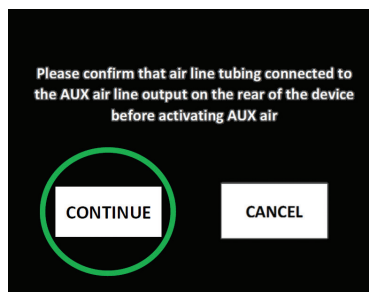

Figure 7F
F. A screen will appear asking the user to confirm that the Auxiliary Air Output tubing is connected to the Auxiliary Air Output connector; if connected, press "Continue;" the icon will light up. If "Cancel" is selected, the system will not initiate the Fractional function (the icon stays dark). (Figure 7F)